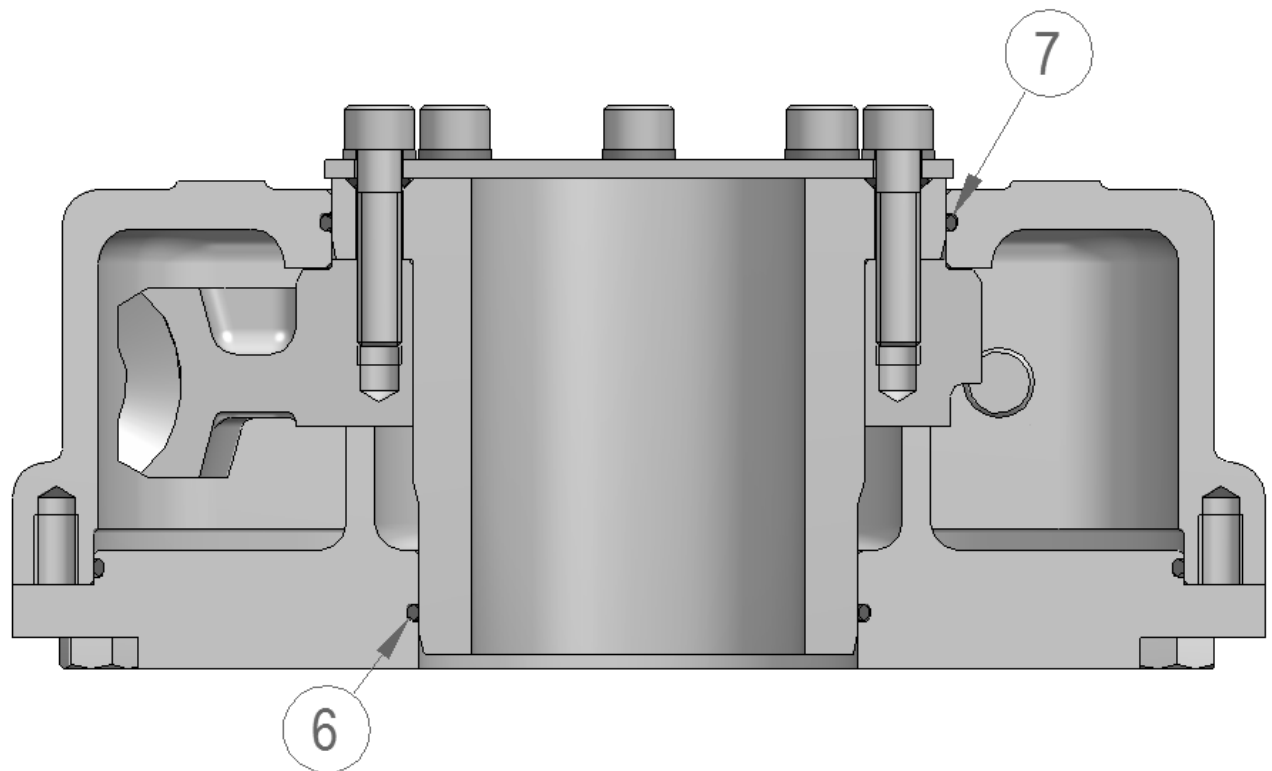

Figure 3 - O-Ring Inspection
Referring to Figure 3, O-rings (6) and (7) are to be inspected for damage, greased and properly seated before re-fitting the output sleeve. If the O-ring is damaged, then it should be replaced prior to fitting the output sleeve.